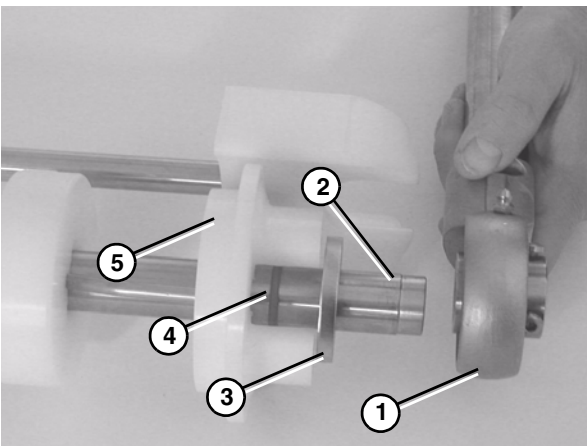

Figure 69
5. Slide off bearing shaft assembly (**Figure 69, item 1**), washer (**Figure 69, item 3**), O-ring (**Figure 69, item 4**), and flanged puck (**Figure 69, item 5**) off the idler shaft (**Figure 69, item 2**).